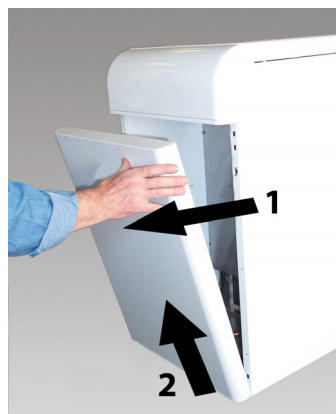

fig. 5 - Front panel opening
To open the front panel of the boiler, refer to the sequence in fig. 5.
- Remove the front panel of the boiler (fig. 5).